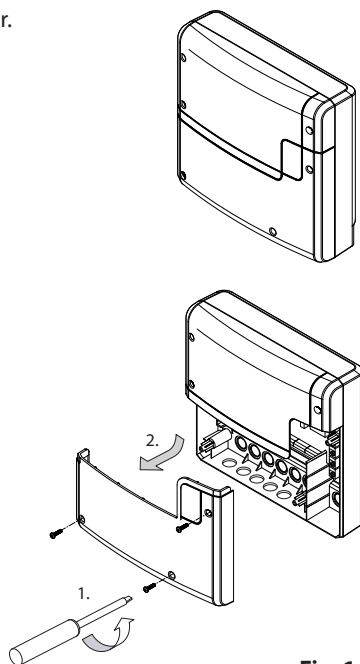

Fig. 1
2. Remove the hosing cover (Fig. 1)